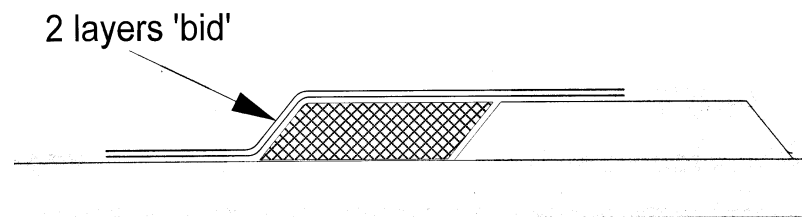

Fig 6. 'Bid' layup.
5. Cut three strips of 'bid' cloth at $\pm 45^\circ$, the full width of the roll, wide enough to cover the foam core and lap onto the glassfibre at least 12mm ($\frac{1}{2}$ ") each side - see figure 6. (Only 2 plies will be laid up, but one and a half lengths will need to be cut for each ply).